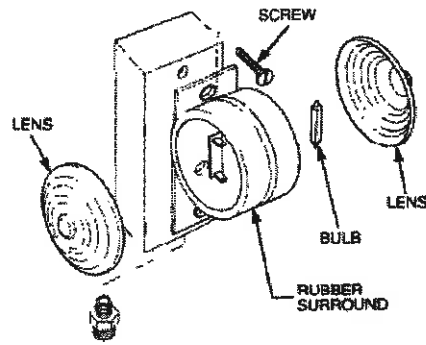

Figure 41 Clearance Light - Exploded View
- Replace the bulb (Figure 41).